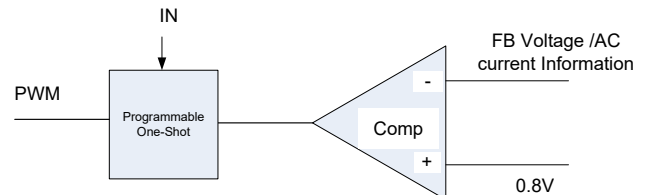

Figure 2. Simplified Control Schematic of AOZ2260AQI-15
The simplified control schematic is shown in Figure 2. The high-side switch on-time is determined solely by a one-shot whose pulse width can be programmed by one external resistor and is inversely proportional to input voltage (IN). The one-shot is triggered when the internal 0.8V is higher than the combined information of FB voltage and the AC current information of inductor, which is processed and obtained through the sensed lower-side MOSFET current once it turns-on. The added AC current information can help the stability of constant-on time control even with pure ceramic output capacitors, which have very low ESR. The AC current information has no DC offset, which does not cause offset with output load change, which is fundamentally different from other V^2 constant-on time control schemes.